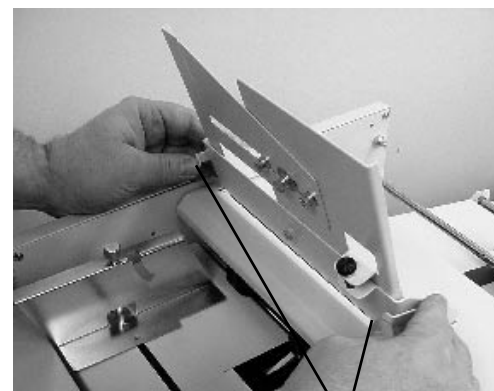

Fig. 10
6. To remove the multi-sheet feeder depress the release levers located on either side of the lower back side of the feeder (Fig. 10), tilt the feeder forward and lift. To reinstall depress the levers and reinsert.